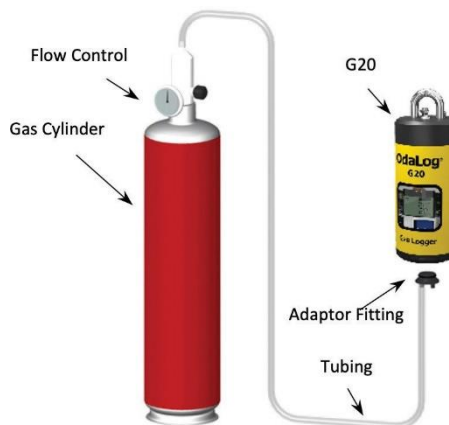

Figure 55: Calibration Setting Arrangement
- Have the control valve connected to the gas bottle and the other end of the tubing connected to the valve (see Figure 55).